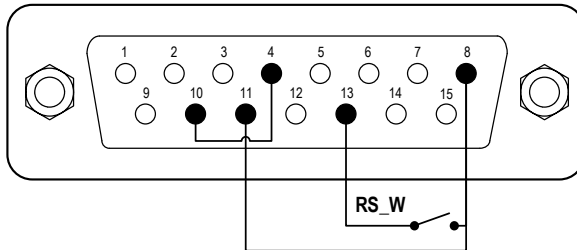
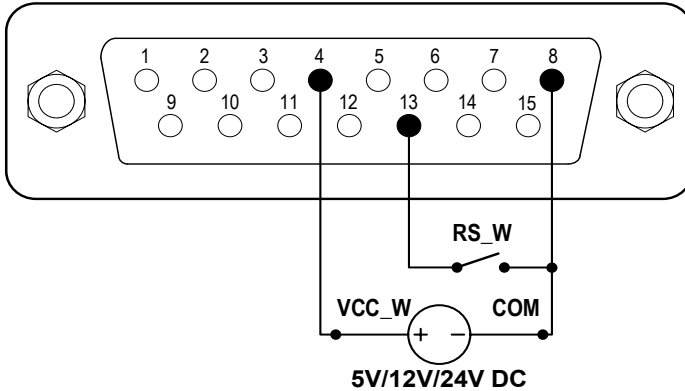

Figure 19. Logic Level 1 Control with Internal 12V Power Source
Figure 20. Logic Level 1 Control with an External Power Source
- 1) Switch the power off. Wire the DB15 connector as shown in Figure 19 or Figure 20, and connect it to the DB15 port on the rear of the pump.